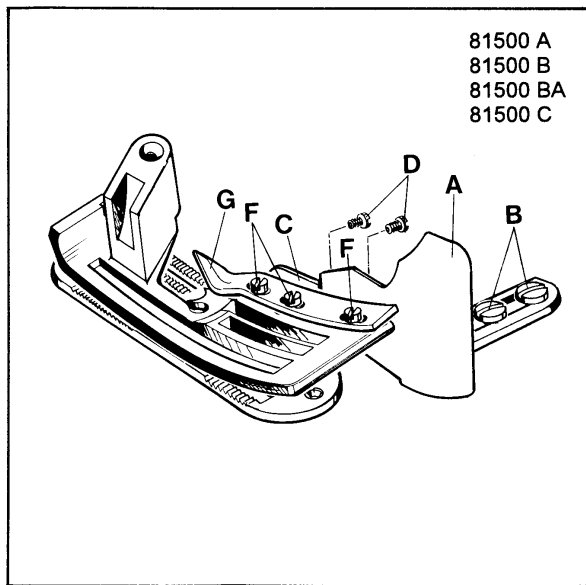

Fig. 6
Typen 81500A, B, B1H, B2, BA, BA1H, BA2 and 81500C, siehe Fig. 6.
Typ 81500E, siehe Fig. 6 A.
Set the edge guide (A, Figs. 6 and 6 A) laterally as close as possible to the presser foot, without contacting it. When loosening the two screws (B), the edge guide (A) can be moved laterally. Retighten screws.
Set the stitch tongue (C, Figs. 6 and 6 A) so that the rear part of the thread loop slides over the tongue onto the fabric, while the front part of the loop is retained until the needle securely has entered the loop. After loosening screws (D) the stitch tongue (C) can be moved to the front or to the rear. When moving the stitch tongue to the rear, the front part of the thread loop is retained longer. Retighten screws (D).